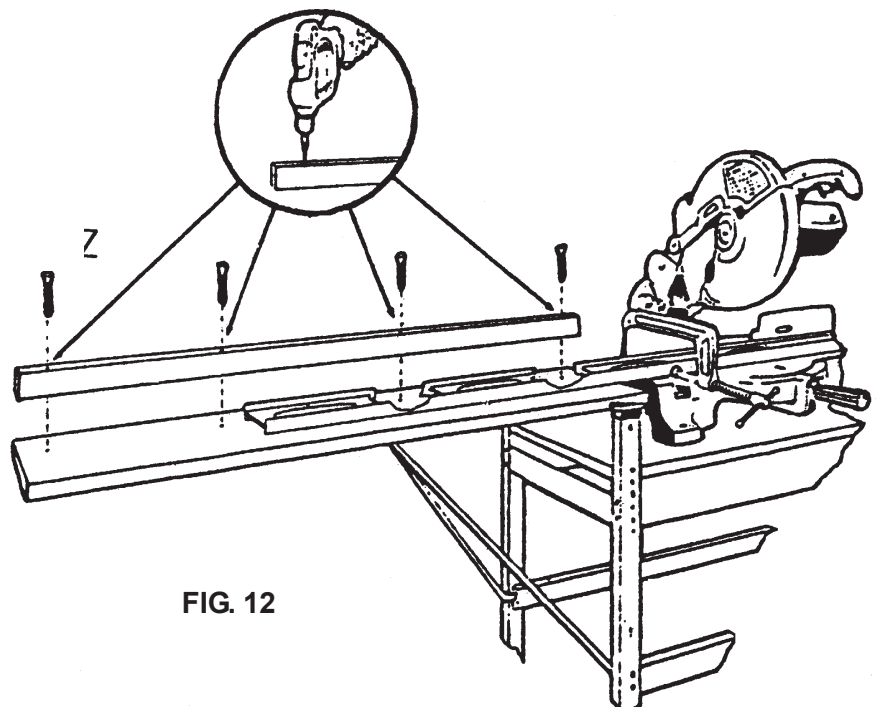

FIG. 12
MOUNTING WING FENCES (EE) (FIG. 12)